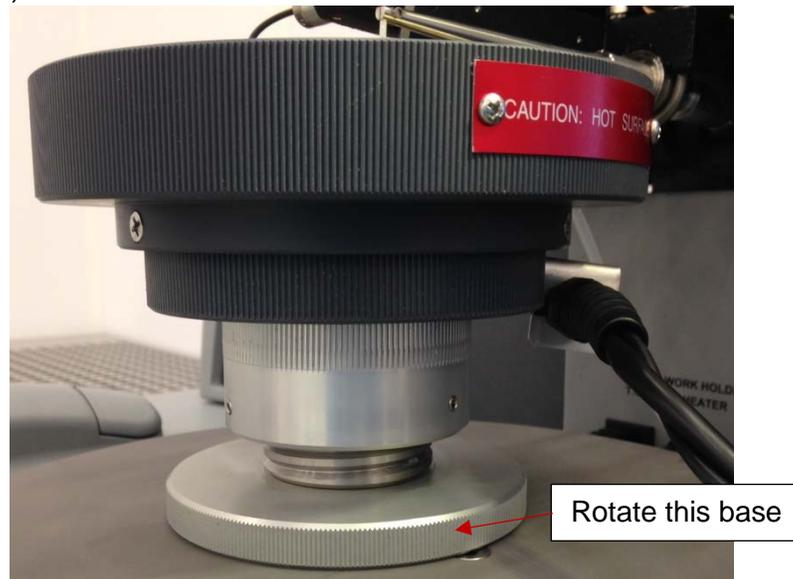

Figure 2: Sample stage
- 3) Lower the sample stage all the way by rotating the base. Mount the sample package (Figures 2 and 3).